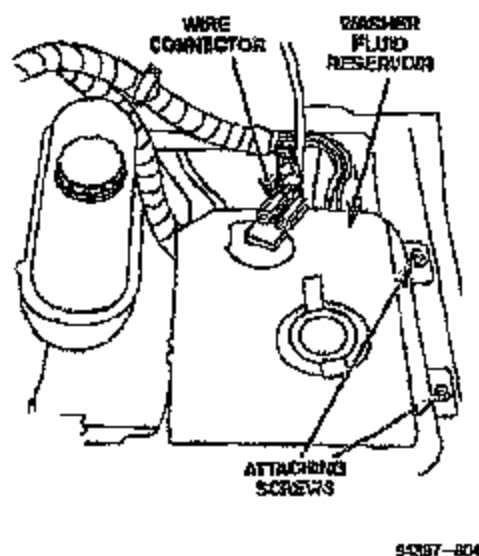

Figure 2
3. Remove the windshield washer fluid reservoir (Figure 2).
66. Install the windshield washer fluid reservoir (Figure 2).